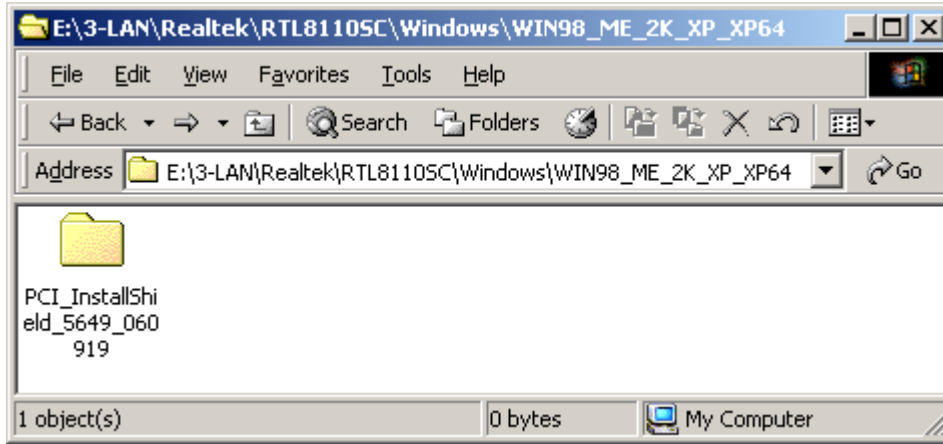

Figure 7-29: WIN98_ME_2K_XP_XP64 Folder
Step 6: Double-click the **WIN98_ME_2K_XP_XP64** folder and a new window opens (Figure 7-29).